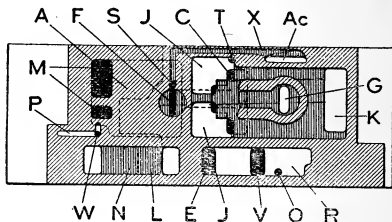

Fig. 17.—Running Position.
**Running and Straight Air Release Position** (Fig. 17). This is the proper position in which to place the handle when wishing to release the train and locomotive brakes simultaneously, or to release the straight air brake when it only has been applied. Air passes from the main reservoir to the brake pipe through ports M. Port N is closed. Port E is brought into communication with port V and the atmosphere by cavity R, releasing the straight air brake. Ports O and T are still open to the atmosphere as in full release position. Port T is open to the atmosphere through J and C in release and running positions, so that in case of a release following a partial application, the accelerator reservoir pressure can escape and prevent the operation of the accelerator valve. Groove P still holds port W in communication with the brake pipe pressure in chamber A.